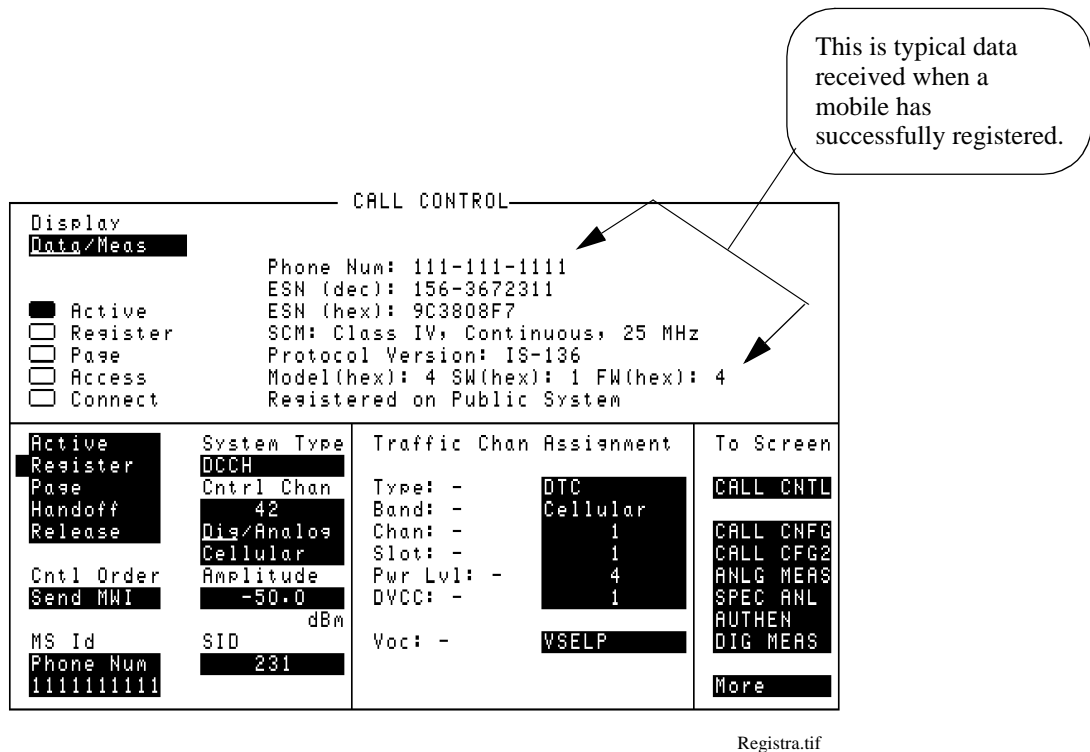

Figure 24
4. If the registration message has been received, the Test Set will display registration data in the upper half of the screen. See Figure 24 below.